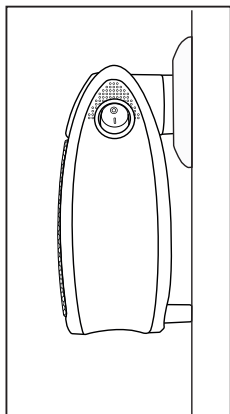

Fig. 1
- The appliance may only be operated in an upright position and fully assembled. The spacers 10 must touch the wall (see fig. 1).